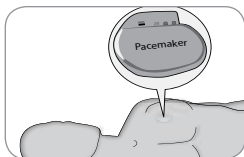

Fig. 21 - Keep away
- **ALWAYS** keep magnets **AT LEAST 1½" (4 cm)** from these devices and implant sites (Fig. 21).